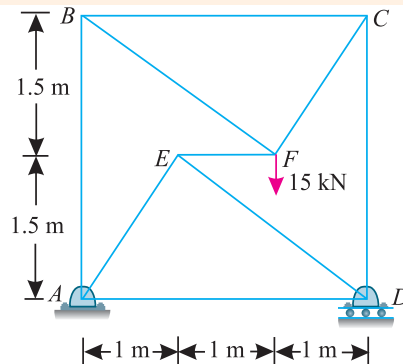

Fig. 13.61.
**Example 13.20.** A frame ABCD is hinged at A and supported on rollers at D as shown in Fig. 13.61.